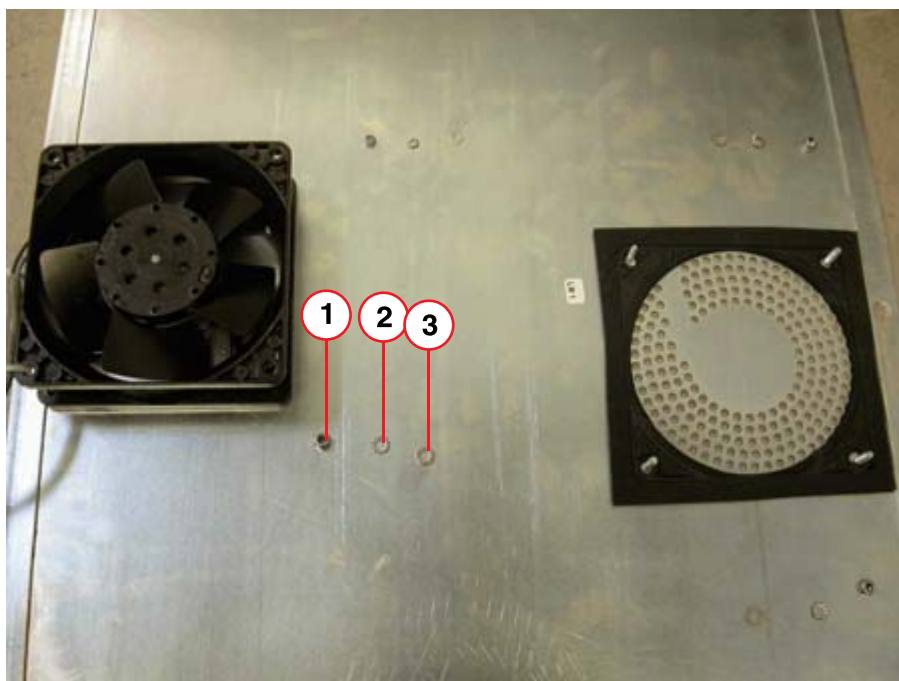

Fig. 37:
- Remove the locknuts, serrated lock washers, washers and finally the fan itself (Fig. 37 / p. 61).